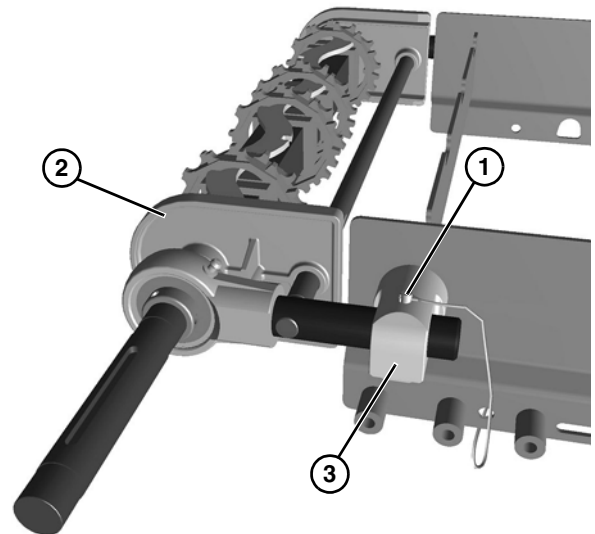

Figure 62
5. Remove the pull pin (**Figure 62, item 1**).
6. Slide the drive tail assembly (**Figure 62, item 2**) out of the take-up blocks (**Figure 62, item 3**).